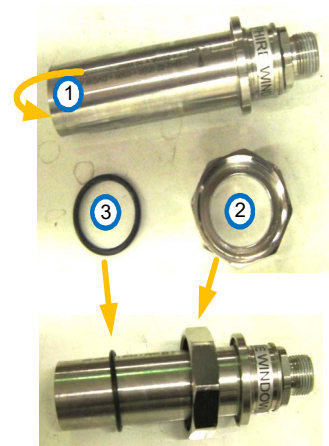

Figure 10-46: Sensor, nut and washer
- Step 2.** Grip the Sensor casing with wrenches # 24 and # 30, as shown in view B, **Figure 10-46**. The inset shows the wrench #24 in the left hand gripping the casing's left band and wrench #30 in the right hand gripping the casing's large nut on the right.